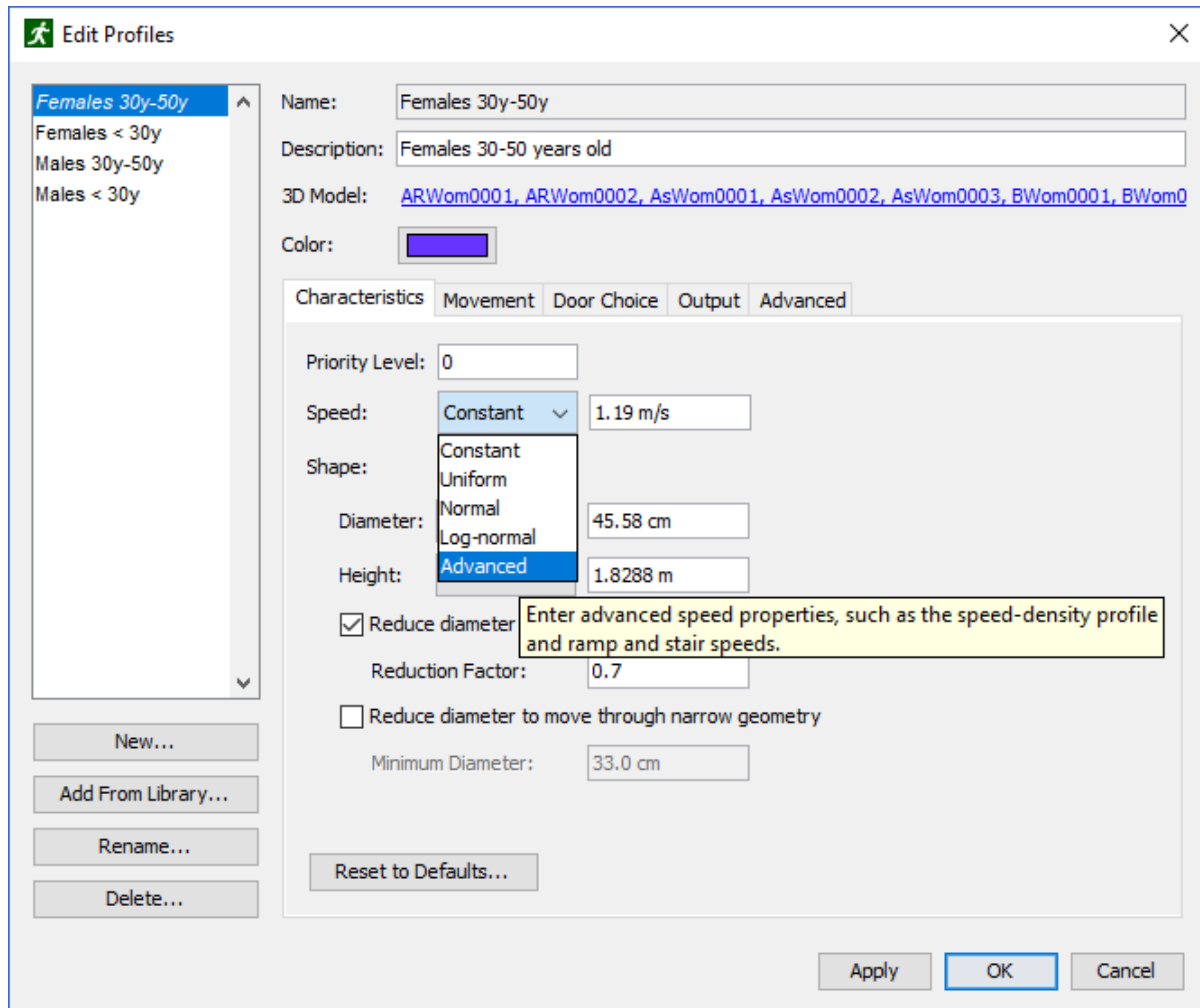

Figure 101. Editing advanced speed properties
3. Next to **Speed**, click the drop-down box and select **Advanced** as shown in Figure 101.